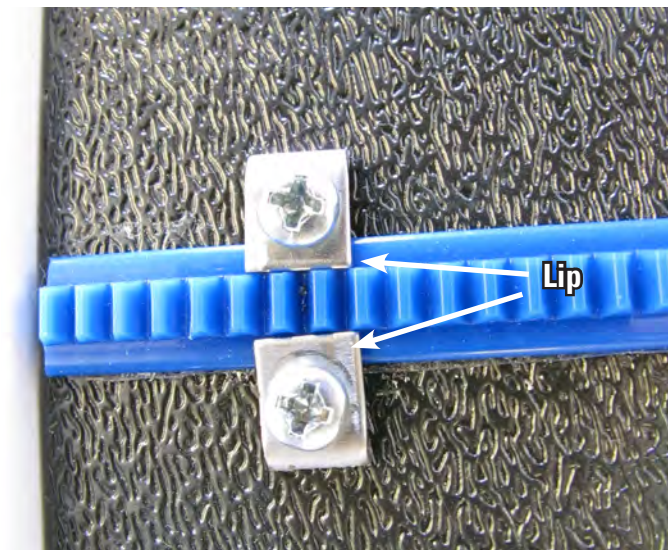

Figure 3.35
6. At the ends of the blue rack, use the four small metal clamps (*Page 3.3, B*) to hold the ends firmly in place (**Figure 3.35**). The clamps have a hole through the center and a lip on one end. The lip should be on the side opposite the blue Flexirack. Drill pilot holes using the 3/32" drill bit and then attach the clamps as shown on either end of the blue Flexirack using a Phillips screwdriver.